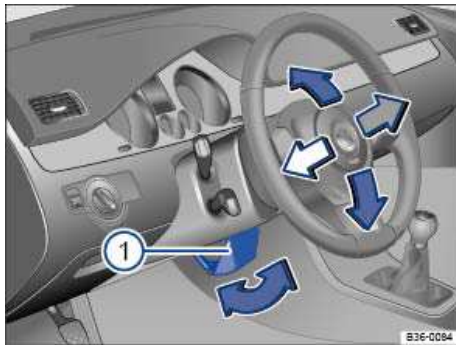

Fig. 47 Manual adjustment for the steering wheel position.
- Pull the lever down ⇒ fig. 47 (1).